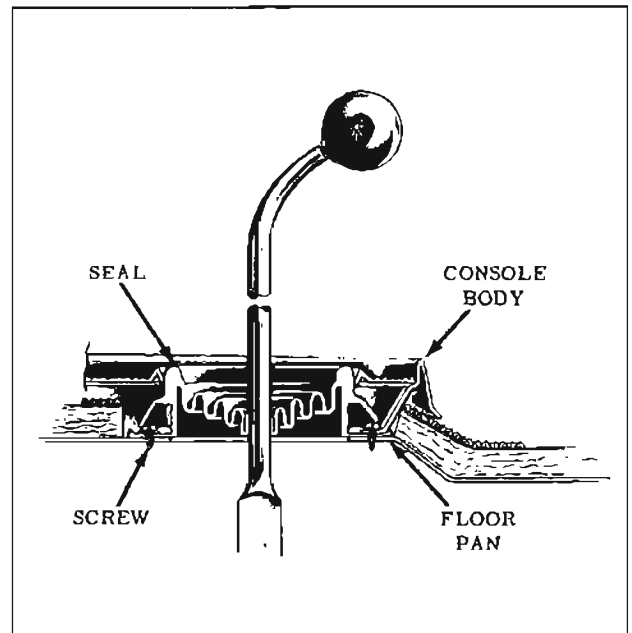

Fig. 11-262 Shift Lever Seal
2. Lift edge of seal and remove (6) seal retainer to floor pan attaching screws. (Fig. 11-262)
sole to floor pan screws. (Fig. 11-262)